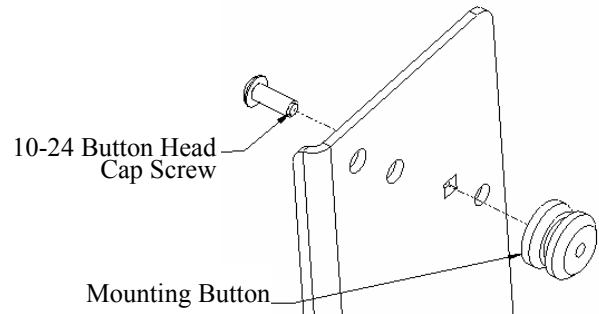
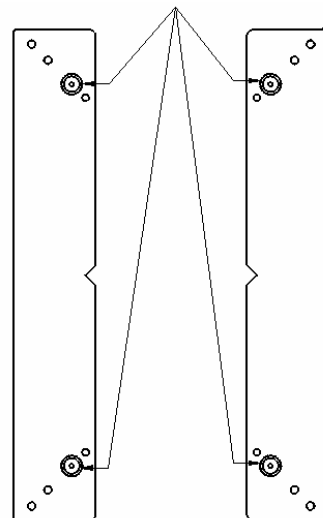
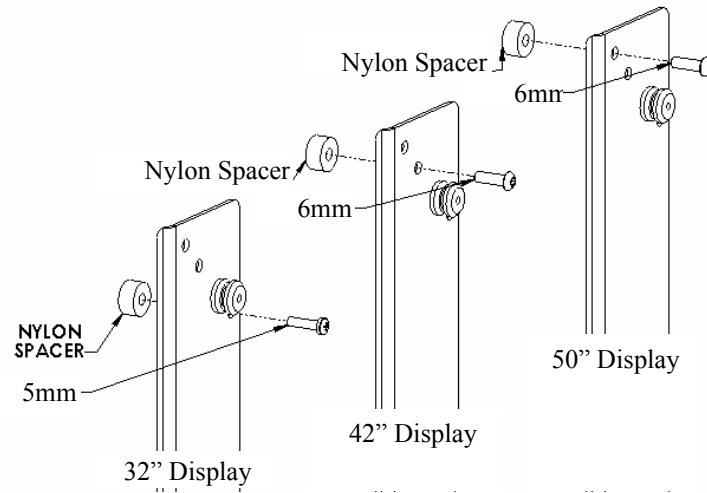

Figure 6. Mounting Button Attachment
Figure 7. Mounting Button Location
Figure 8. Bracket Hole Location
3. Install two base covers (80) and secure using four 10-24 X 3/8"Phillips screws (90) (see figure 6).
4. Install single screen mounting bracket (100) on tubes (60), set at desired height, and secure using four 5/16-18 X 3/8 socket head set screws (70) (see figure 7) and (see figure 8).
1. Using a 10-24 button head cap screw inserted from the backside of the bracket (see Figure 6), secure the mounting button with the chamfered hole of mounting button (larger surface) facing the bracket (see Figure 7).
3. Place nylon spacers over the mounting holes on the back of the screen (see Figure 8).